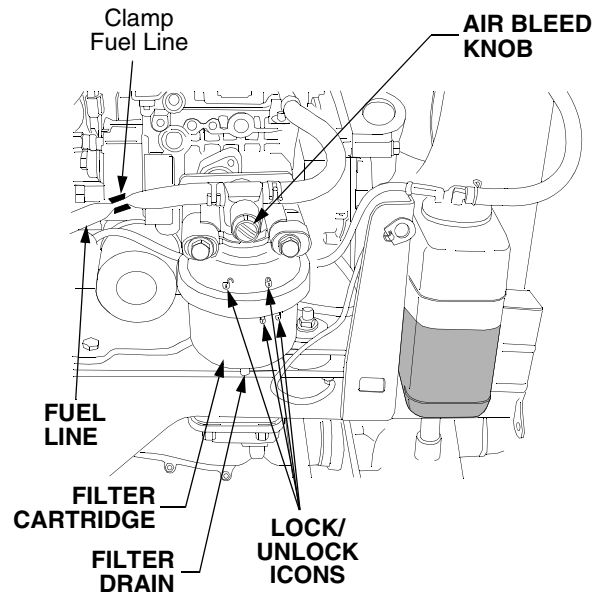

Figure 58
- Slowly turn the air bleed knob counterclockwise until fuel begins to seep out around the bleed knob. Turn the air bleed knob clockwise to close. Refer to Figure 58.
- Clamp the fuel line just to the rear of the fuel filter. See Figure 58.
- Turn the filter approximately 1/4 turn counterclockwise (as viewed from bottom) to align the unlock icons. Refer to Figure 58.